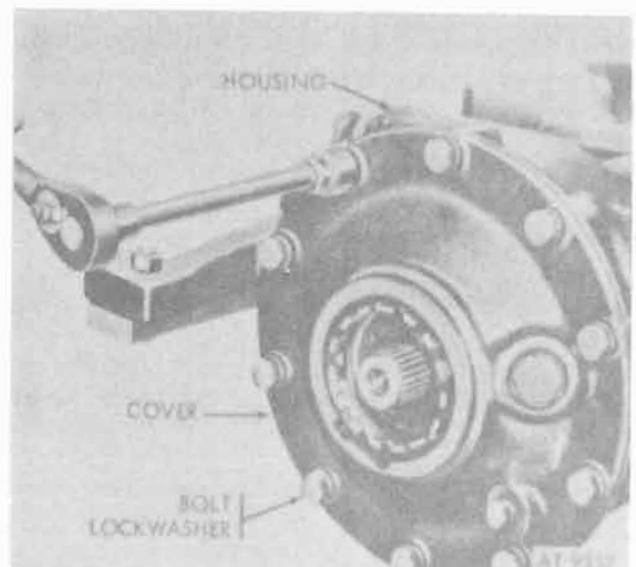

Figure 12-3. Housing cover plate retaining bolts and lockwashers.
- d. Remove ten housing cover plate bolts and lockwashers retaining cover to housing (fig. 12-3).